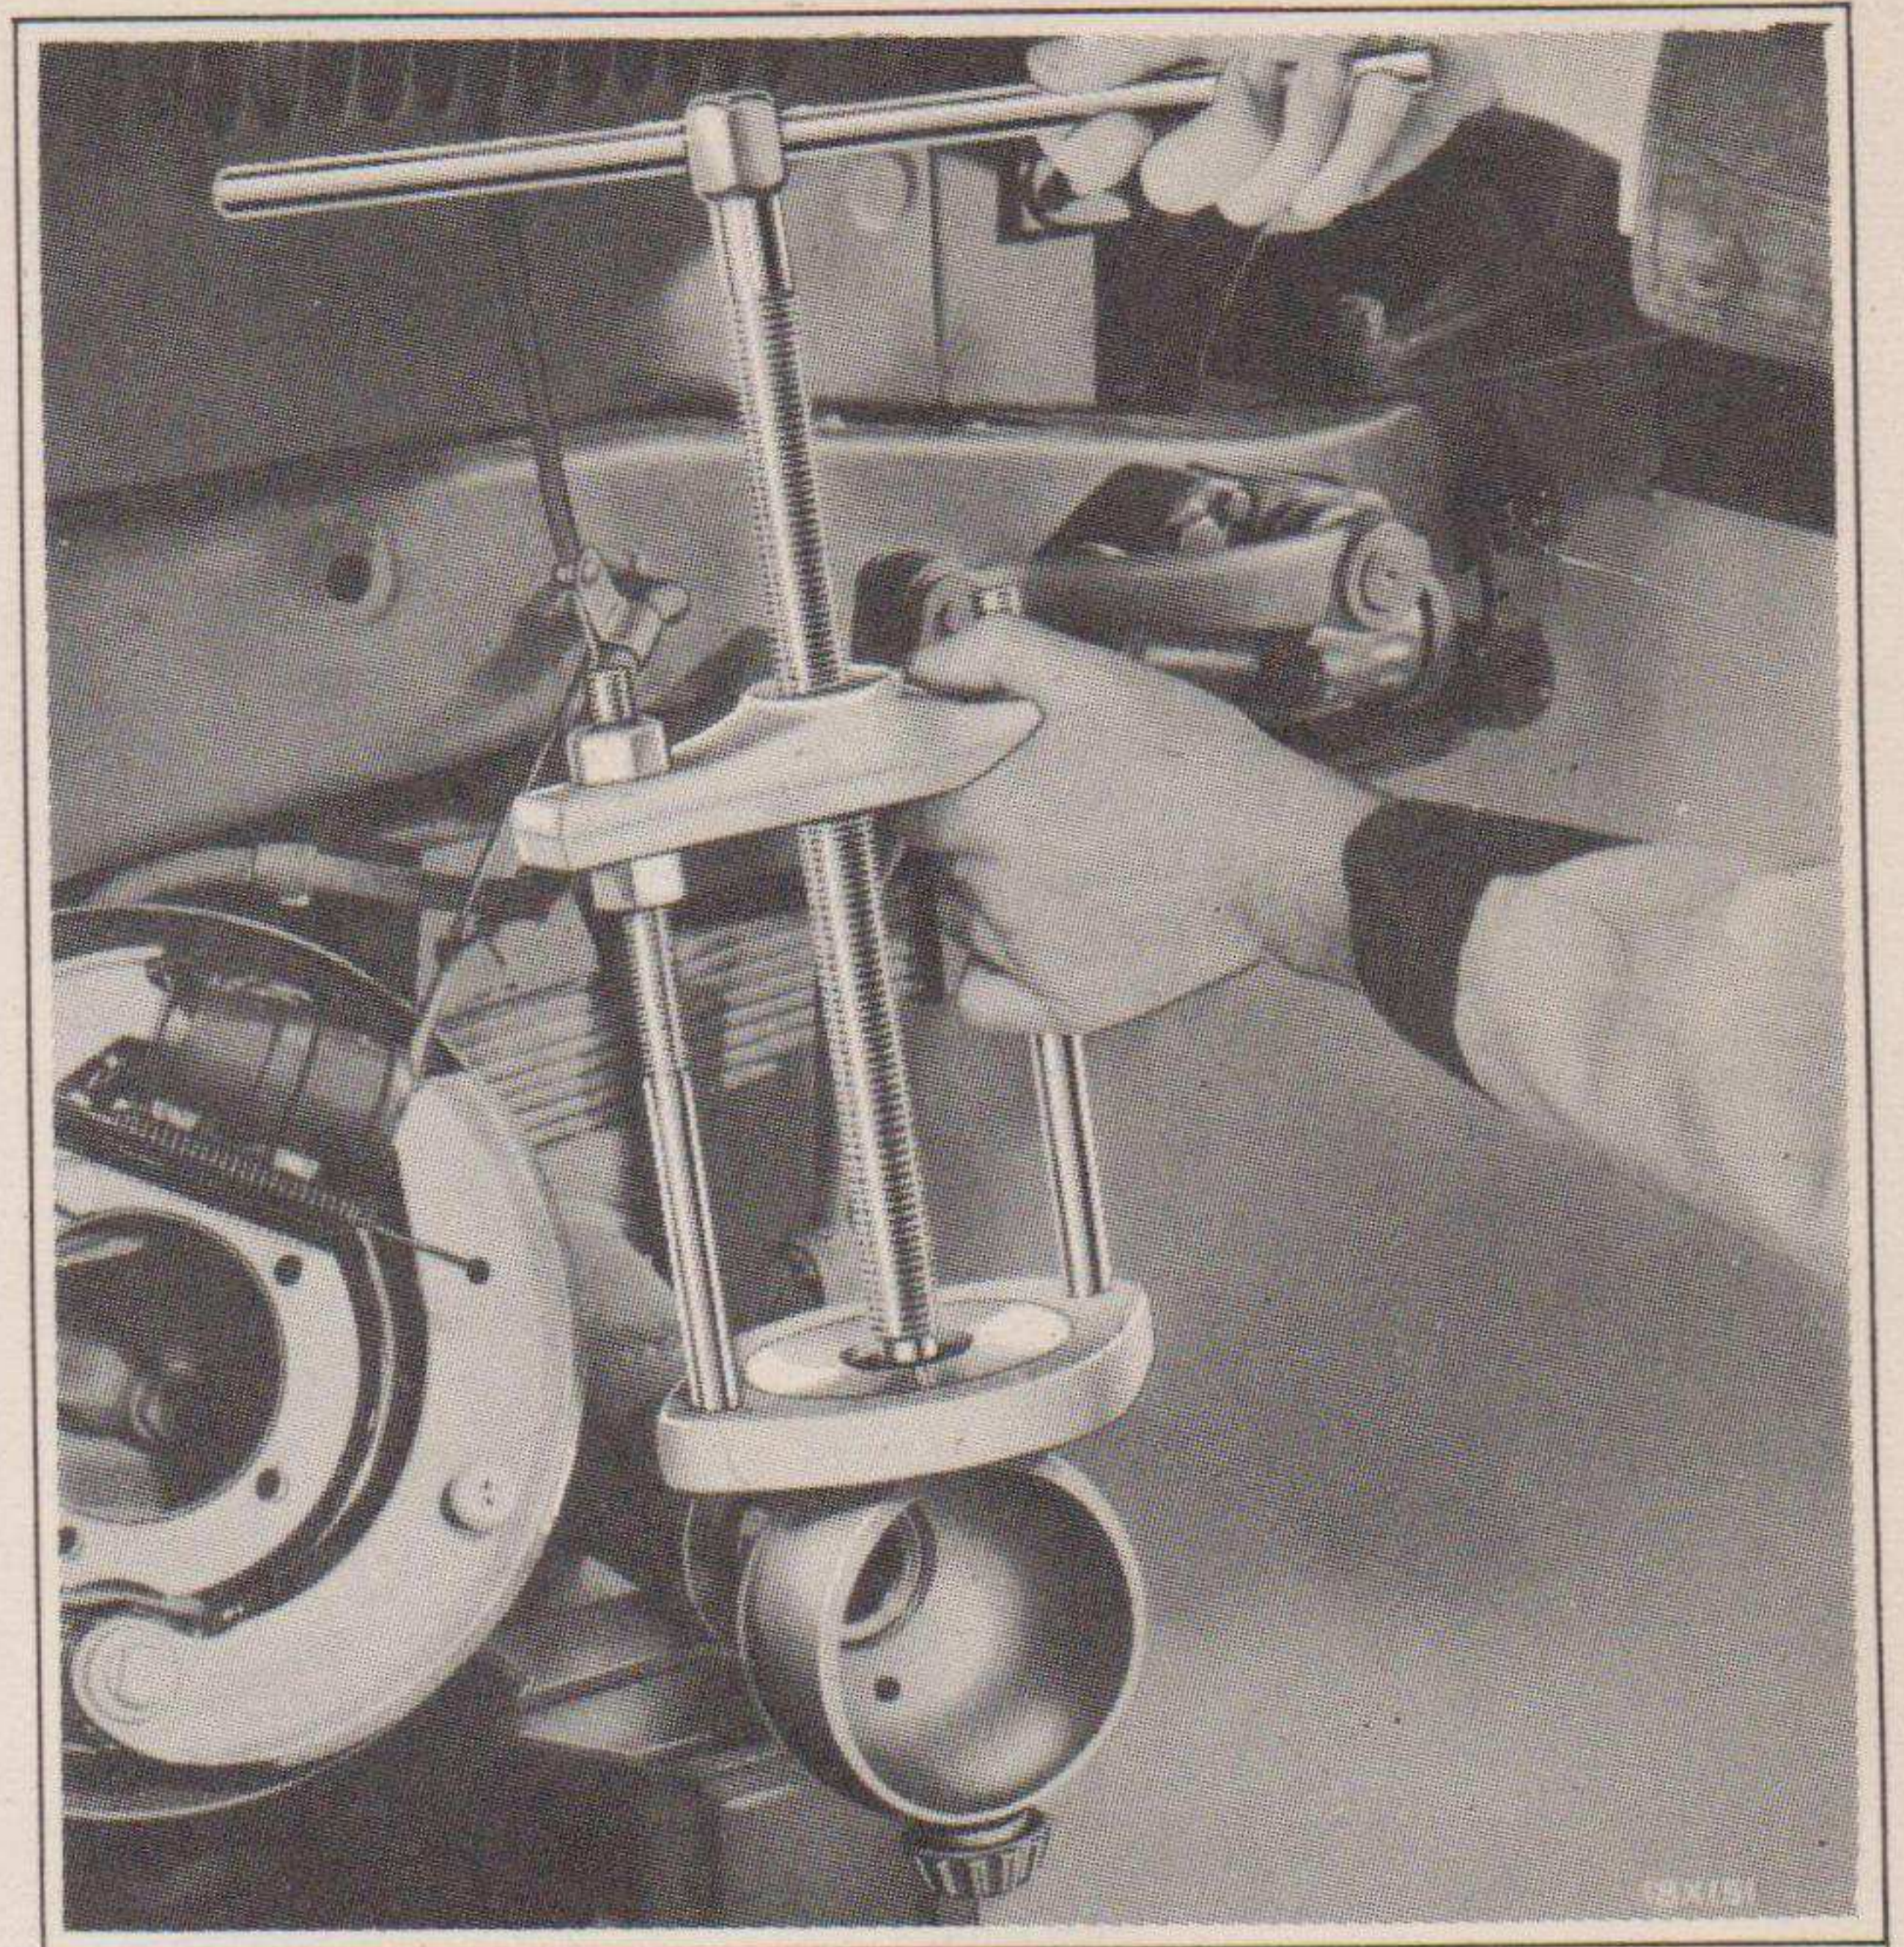

Fig. 31—Removing Steering Knuckle Flange Bearings
- (f) Pull the top and bottom bearing cones off the trunnion socket bearing pins on the ball end of the axle housing with a bearing puller. See Fig. 31.